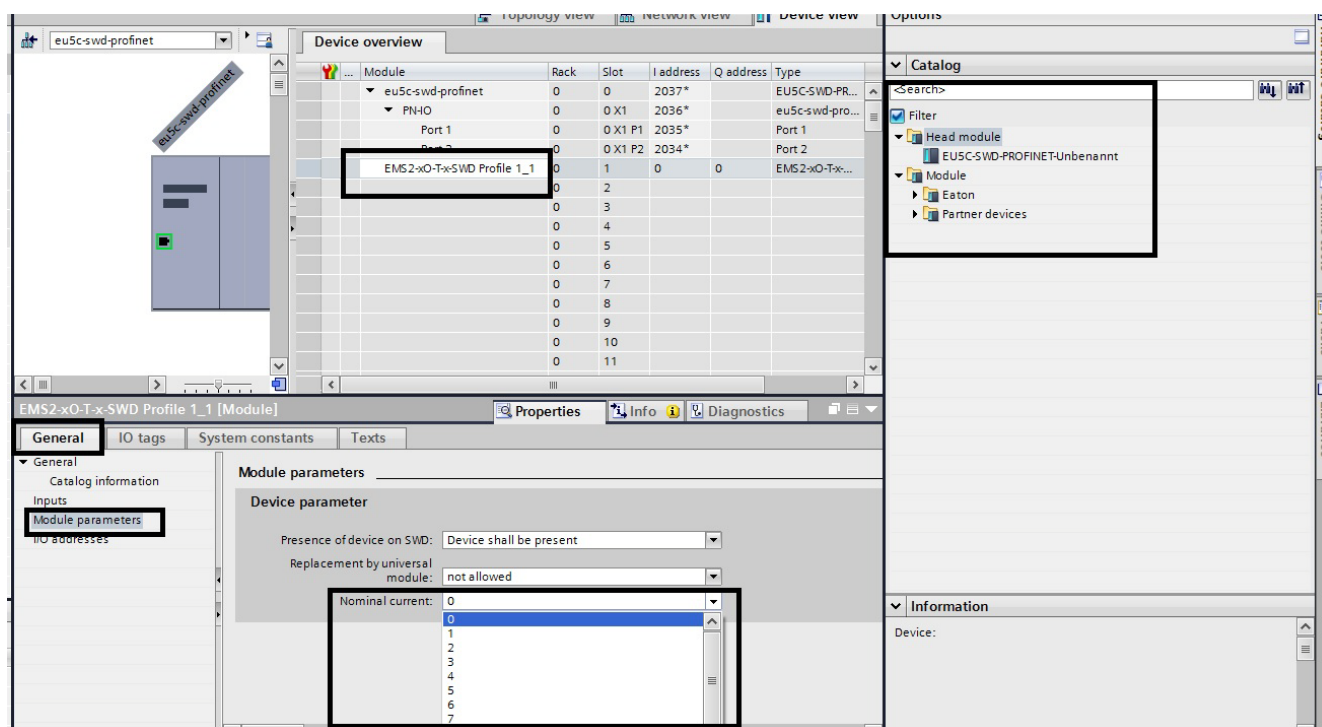
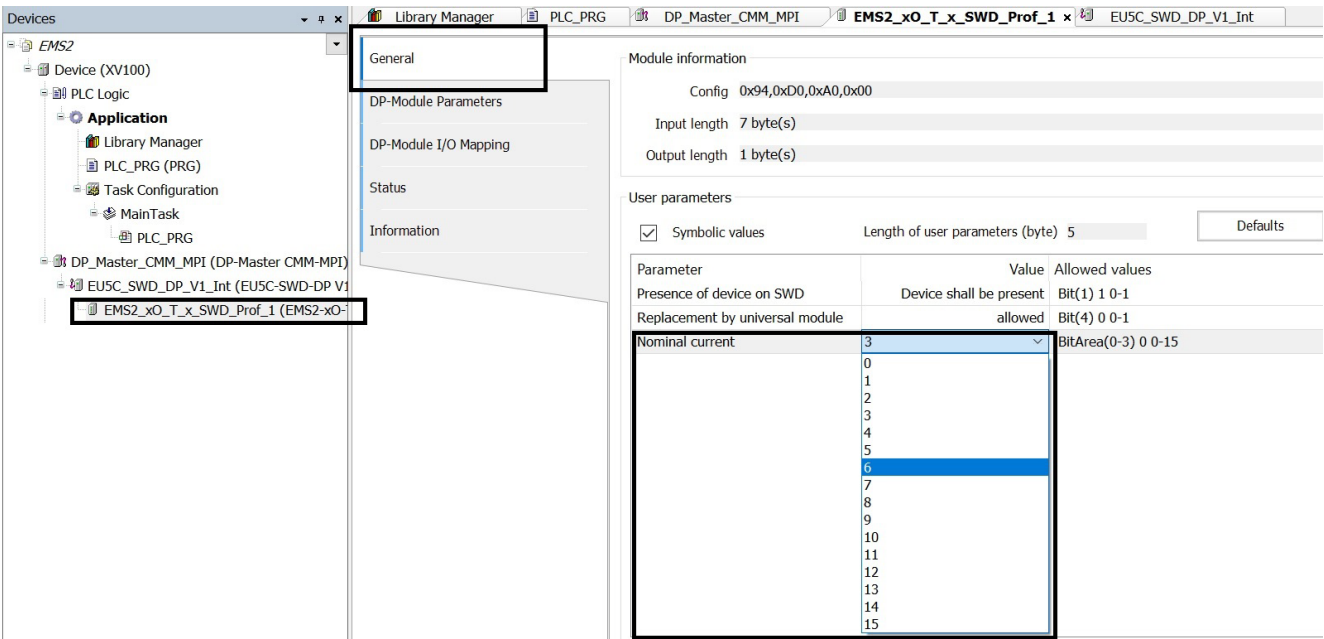
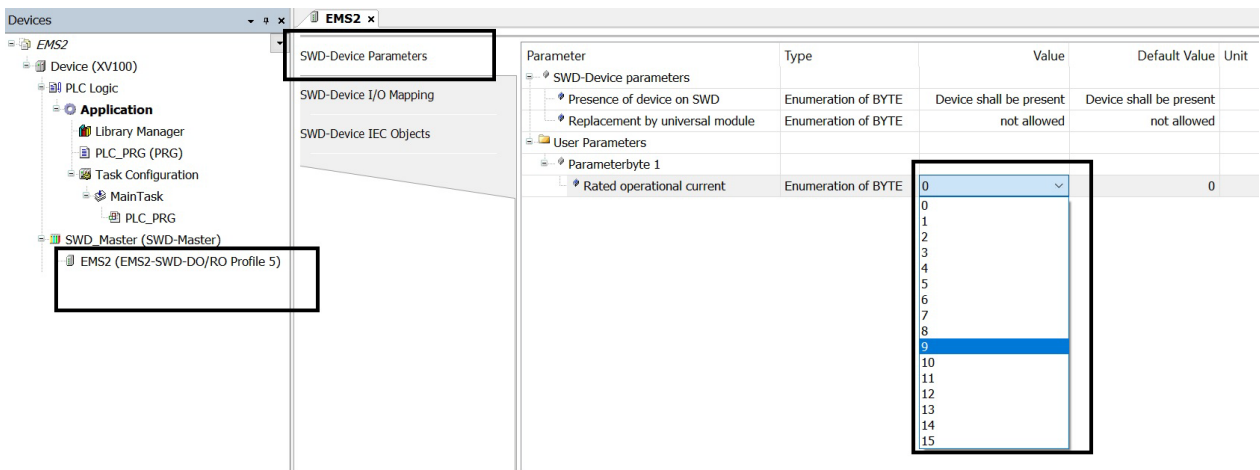

Figure 16: Selecting the motor starter (right) – setting the motor nominal current (below)
Figure 18: Selecting the motor starter (left) – setting the motor nominal current (below)
Figure 20: Selecting an EMS2-...-SWD motor starter
1) Values 0 to 15 in the "Encoded value for I_n " column are the entries in the selection lists, as shown in → figure 16, → figure 18 and → figure 20 for the motor nominal current.